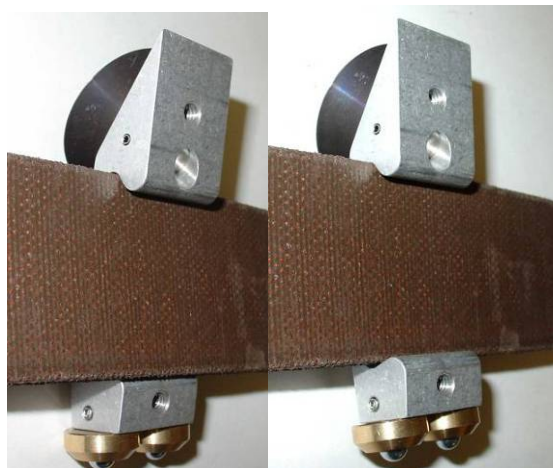

Fig. 1a
- C. Mount the Body / Wheel Assembly to the center of the Outer Strap by placing the Outer Strap in the top of the strap slot of the Body / Wheel Assembly then press the strap into the bottom of the slot (Fig. 1a).